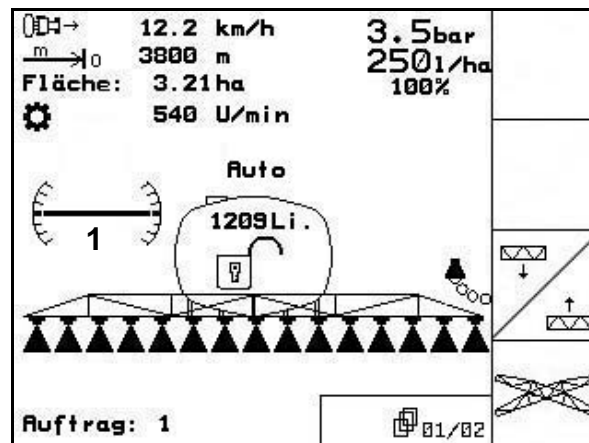

Fig. 141
- In the operational menu the symbol tilt adjustment (Fig. 141/1) shows the horizontal alignment of the sprayer booms.